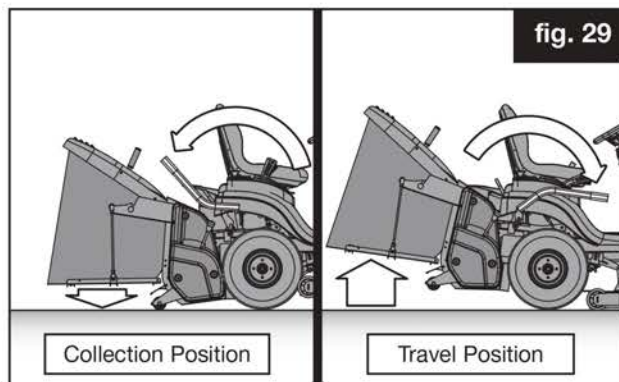

fig. 29
3. Lower the PGC to the collection position using the PGC lift lever (fig. 29).
2. Raise the PGC to the travel / net empty position using the PGC lift lever (fig. 29).
2. Raise the PGC to the travel position using the PGC lift lever (fig. 29).